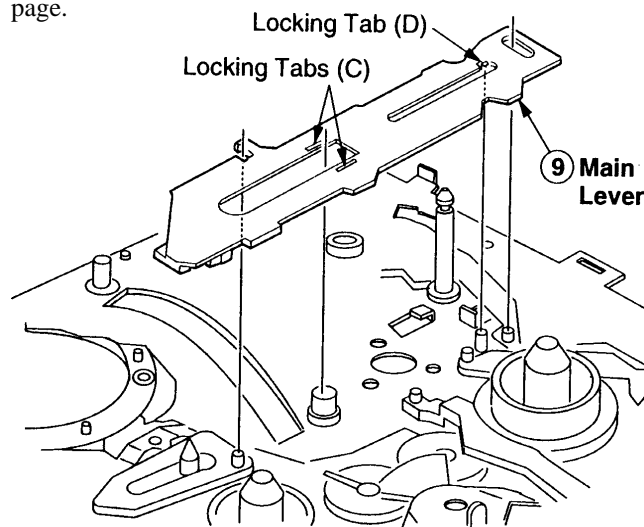

Fig. 8 - Main Lever Removal
**Main Lever Removal (Fig. 8)**